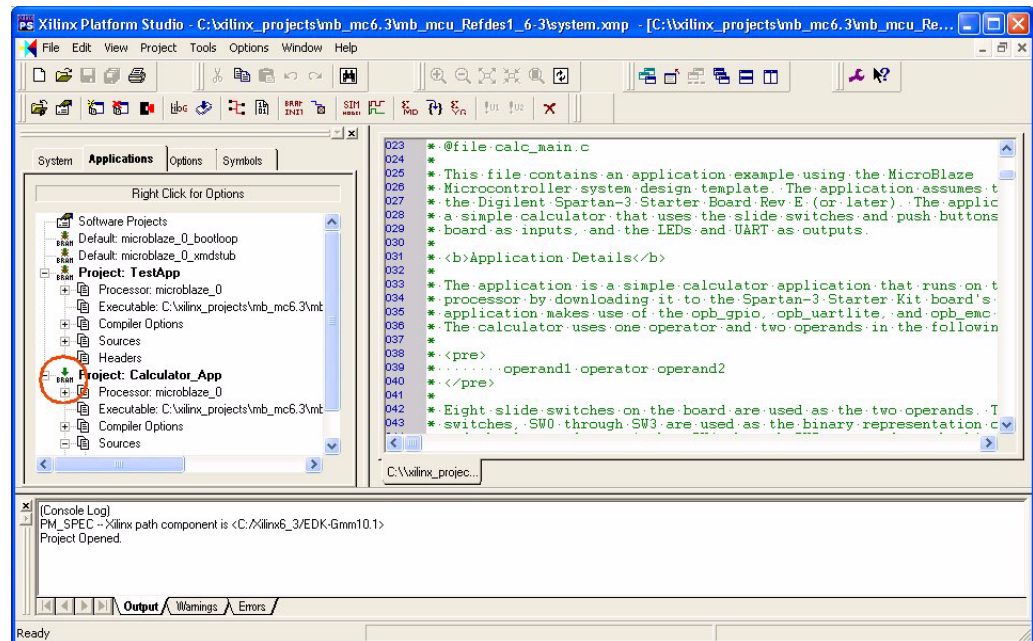

Figure 2-3: Software Selection when FPGA is Configured
- In GDB, select the “File>Target Settings” to display the Target Selection dialog box as shown in Figure 2-3.
- Configure the Target Selection dialog box to match Figure 2-3, then click OK.